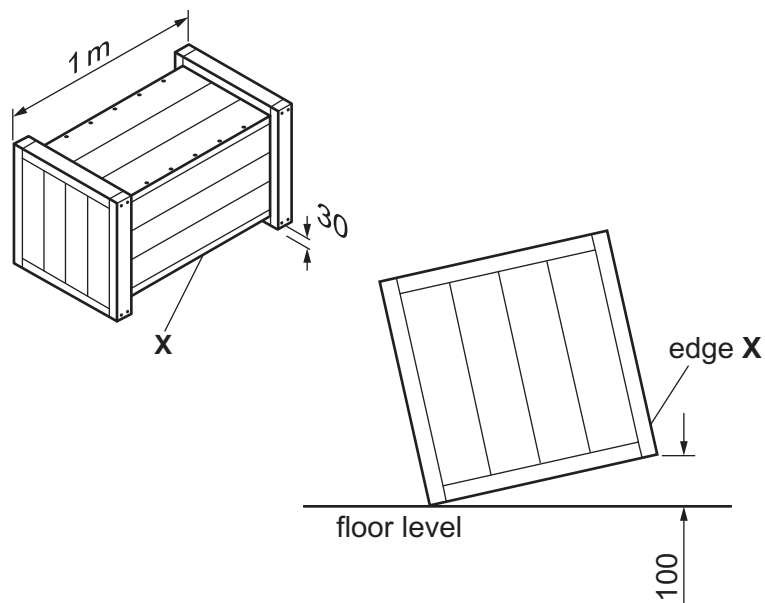

Fig. 11.3
- (c) Fig. 11.3 shows a heavy packing crate.
- Edge X of the packing crate needs to be lifted by 100 mm to the position shown. Draw a design on Fig. 11.3 for a lever system that will allow the edge to be lifted by 100 mm. [3]